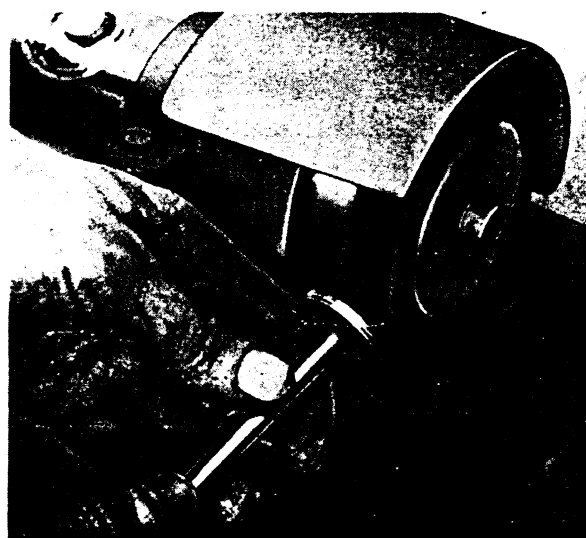

FIG. 14
1. Thoroughly scrape all carbon from each valve head, wash valve in petrol, afterwards polishing head and stem, preferably using a rotating wire buffer similar to that illustrated in Fig. 14.